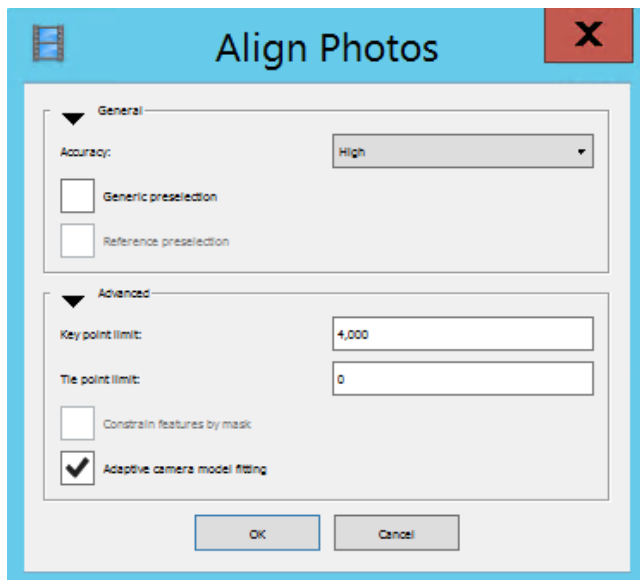

Figure 17. 'Align Photos' window in Agisoft Metashape displaying settings for initially aligning imagery.
1. Click Workflow → Align Photos (Figure 17)